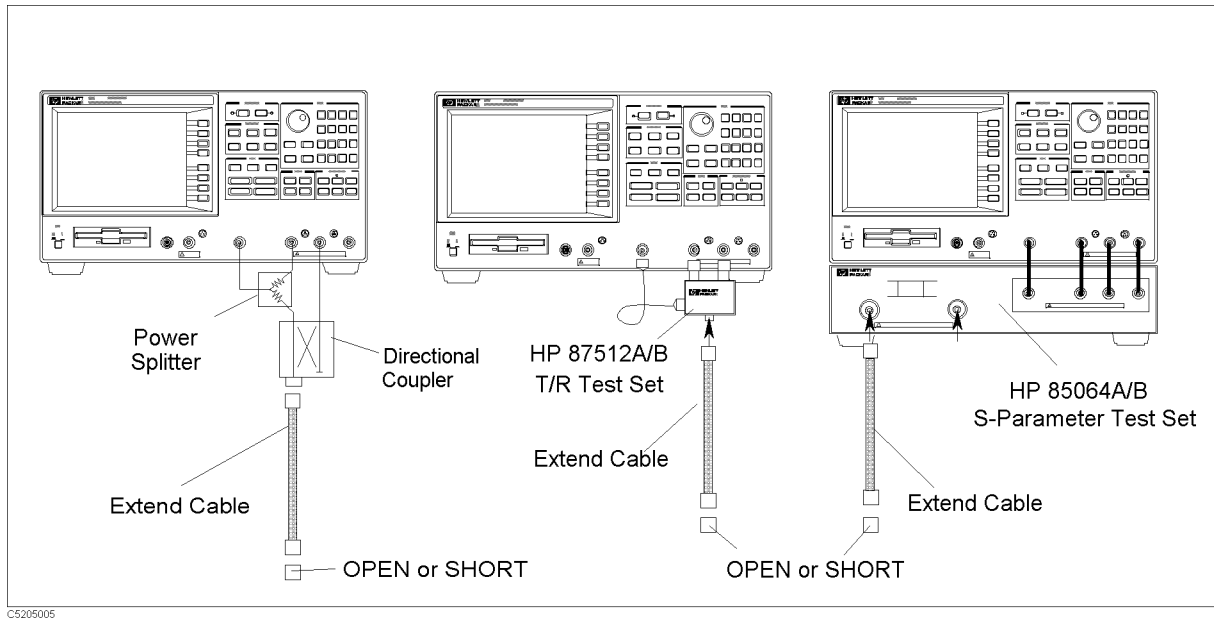

Figure 8-17. Cable Measurement Configuration (Reflection)
1. Connect the cable as shown in Figure 8-17.